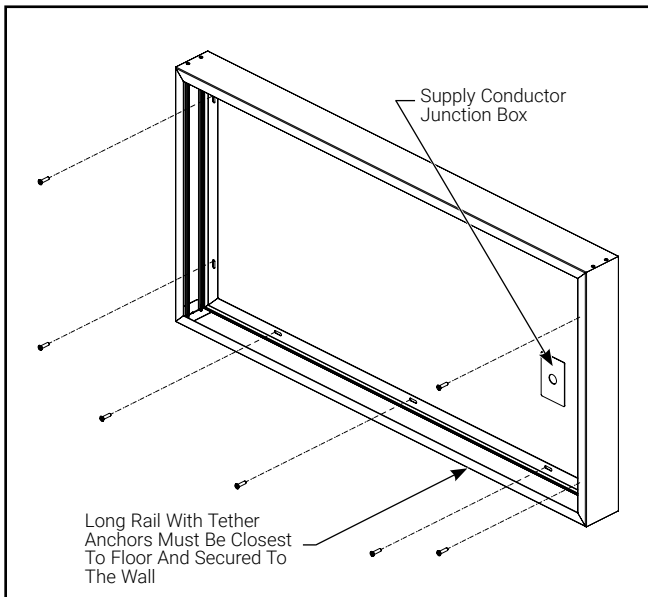

Figure 13.
**Note 1:** The long rail with the tether anchors installed must be closest to the floor. (Figure 13.)
**Note 2:** It is recommended to mount the box such that the supply conductor junction box is located at one end of the box. This will ensure there is enough free space inside the box for excess flexible metal conduit. (Figure 13.)
B3. Attach box to wall using appropriate hardware (not included) to secure both short rails and the bottom long rail with the tether anchors installed to the surface. Ensure the box remains square when mounting. The spacing of the mounting slots is 16 inches center-to-center. (Figure 13.)